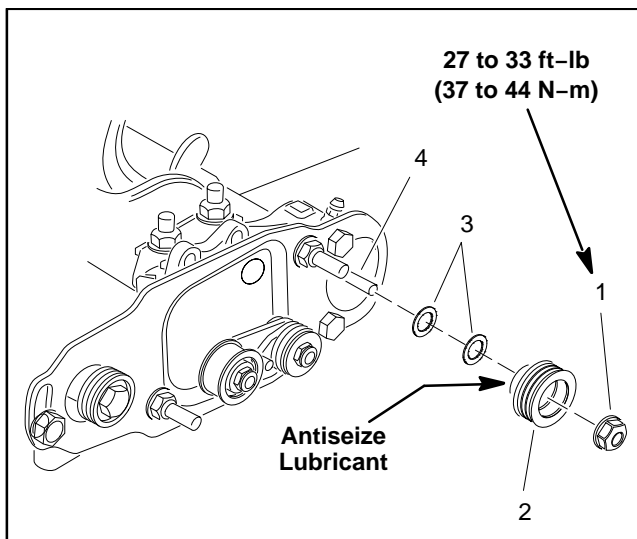

Figure 70
B. If necessary to align pulleys, remove driven pulley from brush shaft and add or remove flat washer(s) until drive and driven pulleys are correctly aligned (Fig. 70).